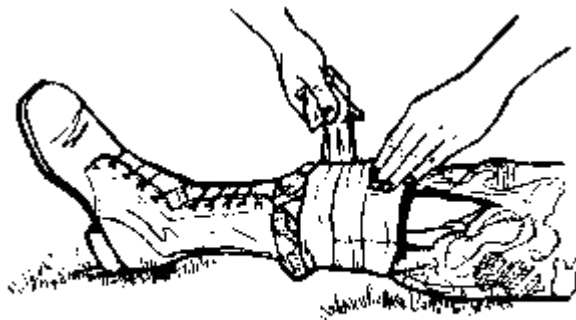

Figure 2-31. Wrapping tail of dressing around injured part.
c. Hold the dressing in place with one hand. Use the other hand to wrap one of the tails around the injured part, covering about one-half of the dressing (Figure 2-31). Leave enough of the tail for a knot. If the casualty is able, he may assist by holding the dressing in place.